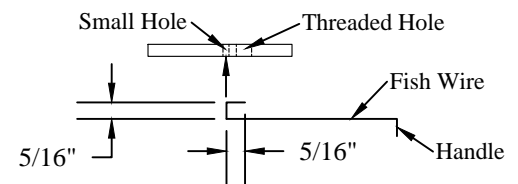

Figure 9: Fish wire dimensions.
11. **Bend** the supplied fish wire as shown (Figure 9).
12. **Insert** the fish wire through the small hole in the threaded bar (Figure 9).